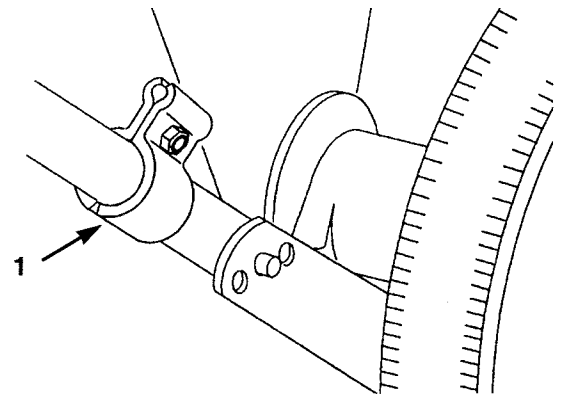

Figure 21
6. Loosely install a clamp to each side of the mower handle, using carriage bolts and lock nuts (Fig. 21). Make sure the clamps slide on the handle.